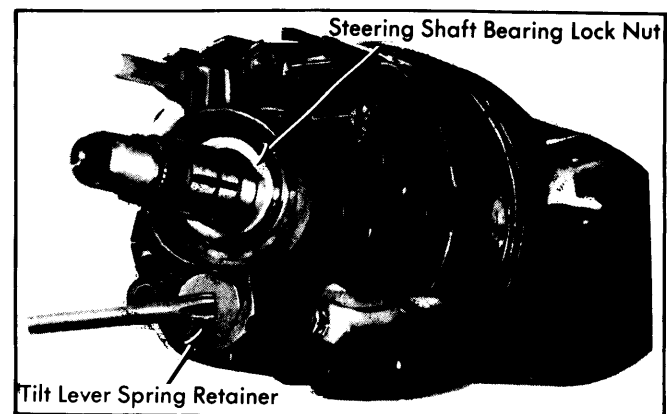

Fig. 6 Removing Tilt Lever Spring Retainer
3) Install tilt release lever and place column in full up position. Remove tilt lever spring retainer by using a phillips screwdriver which just fits into slot opening. Insert screwdriver into slot, press in approximately $\frac{3}{8}$ ", then rotate $\frac{1}{8}$ turn counterclockwise until retainer ears align with grooves in housing, then remove retainer, spring, and guide. See Fig. 6.